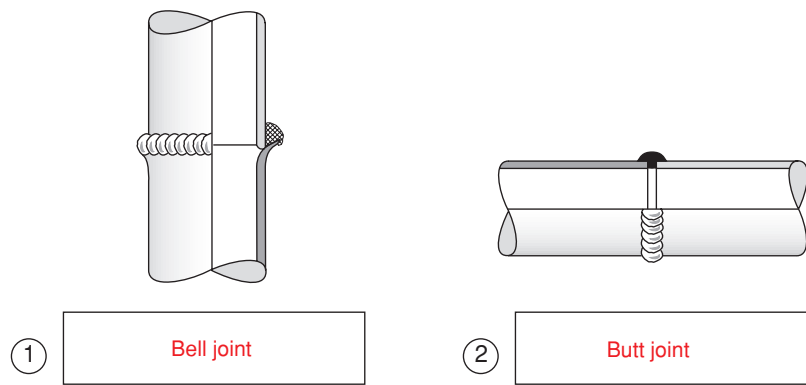

Figure 9
- (24) Figure 9 shows two completed bronze welded joints. In the spaces provided near the figure give the name used to describe each joint. (Page 71.)